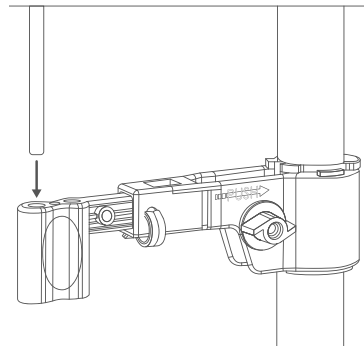

FIG. 2.2
c. Insert the other end of the frame rod fully into the corresponding clamp hole position. (Fig. 2.2)